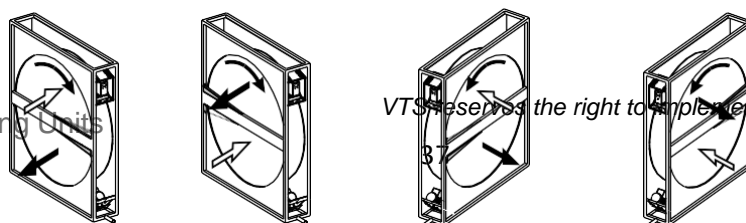

Fig.22. Direction of rotary regenerator rotations
- once the drive belt is assembled and the exchanger is turned on, make sure that direction of rotor's rotations led from exhaust-air ducts, through the cleaning air-lock and to the supply-air ducts (fig. 22).